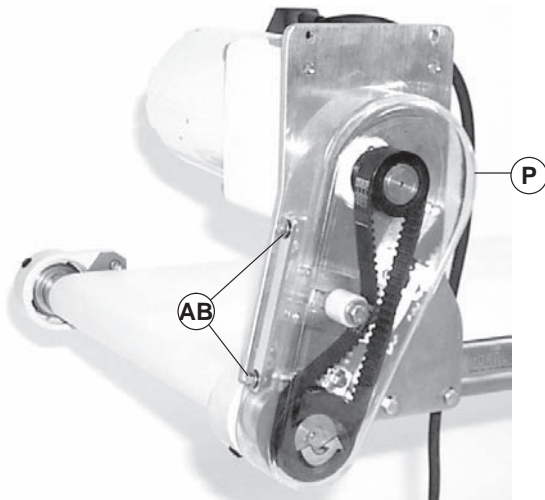

Figure 8
Do not over-tighten screws (Figure 8, item AB).
9. Install cover (Figure 8, item P) and tighten four (4) screws (AB) to 35 in-lb (4 Nm).